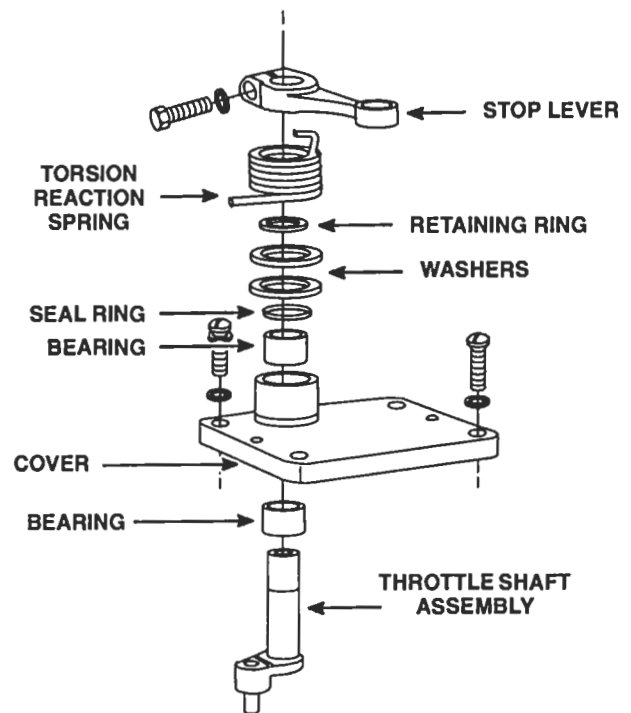

Figure 3. Governor Cover and Components
1. Disassemble the governor cover (Figure 3.)